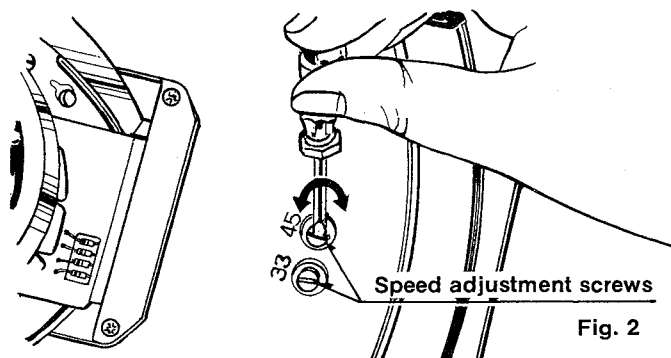

Fig. 2
② SPEED ADJUSTMENT (See Fig. 2)